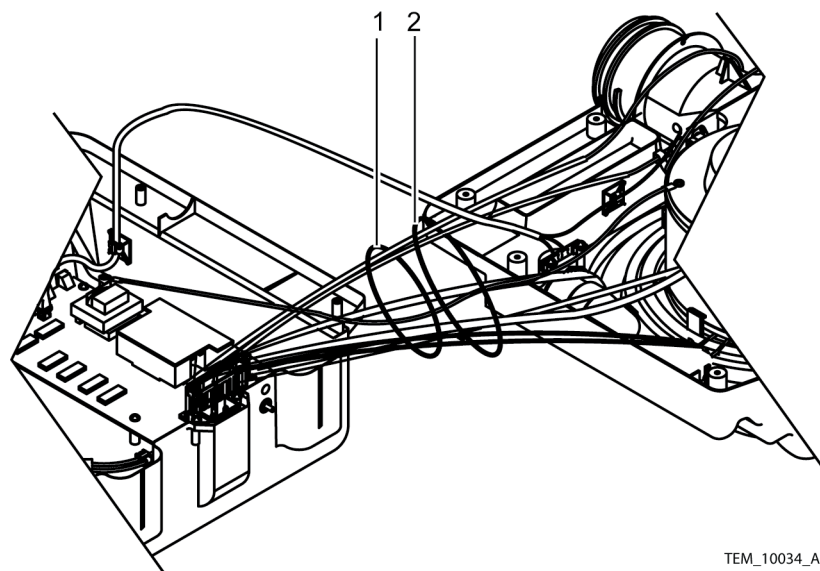

Figure 5-38. Cable Harness Bundle Ties
25. Install the cable harness bundle ties. See Figure 5-38, items 1 and 2.